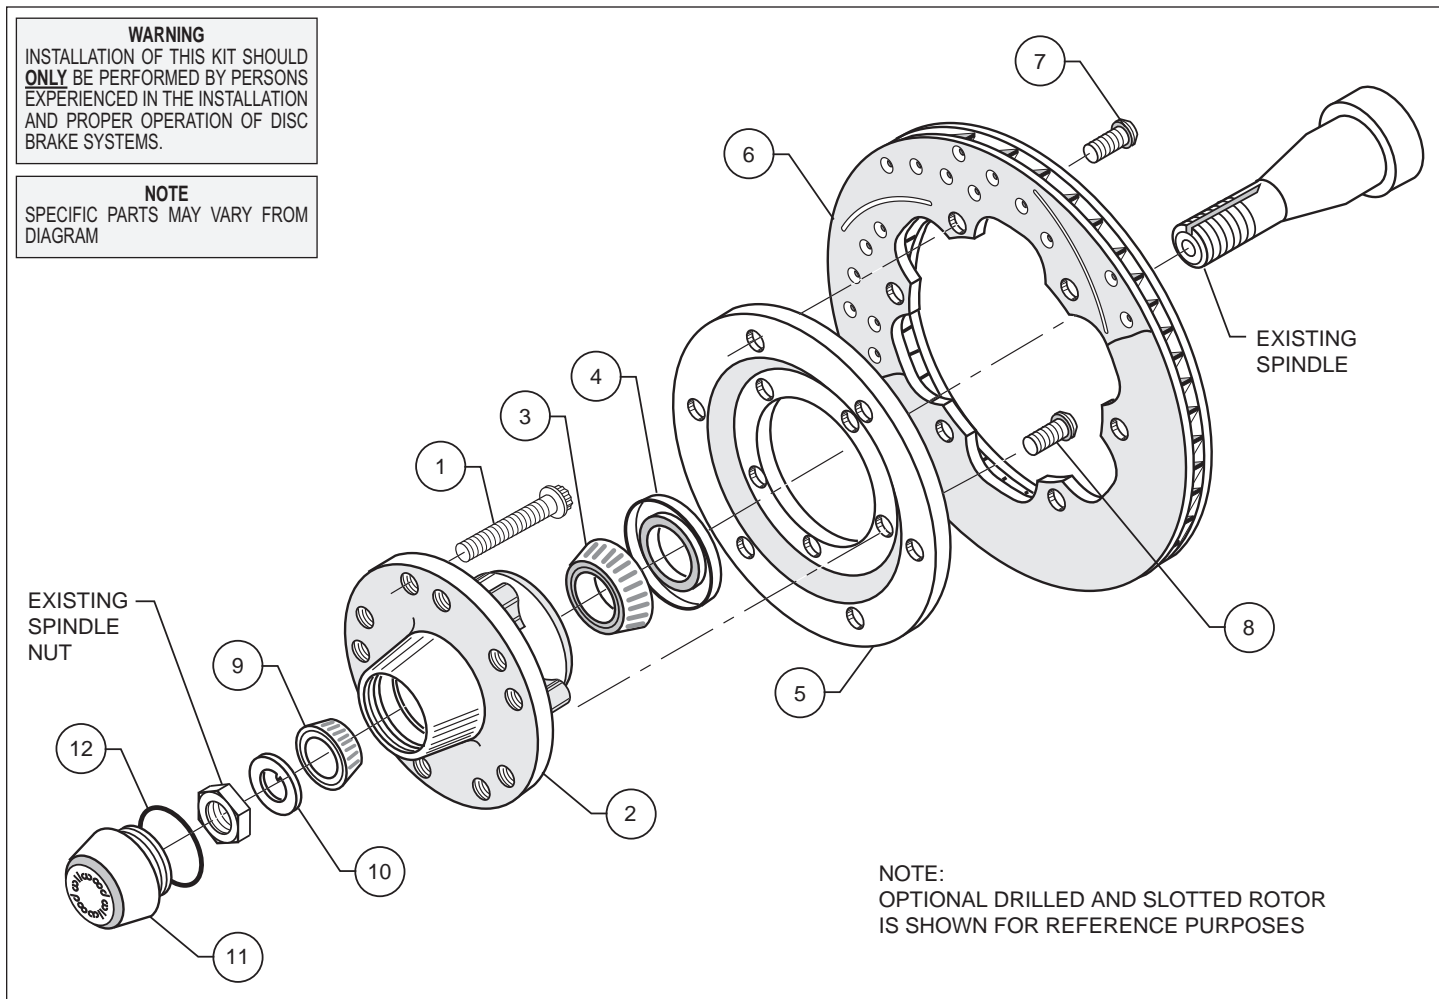

Figure 1. Typical Installation Configuration
- Install wheel studs (1) into the hub (2). Torque to 77 ft-lb. **NOTE:** There are two five lug patterns in the hub (5 x 4.50 and 5 x 4.75). Make sure of the correct hole pattern for the correct wheel application before installing studs into hub.
- Pack the large inner bearing cone (3) with high temperature disc brake bearing grease (available from your local auto parts store) and install into the backside of the hub (2).
- Install the grease seal (4) by pressing into the backside of the hub (2).
- Orient the rotor (6) and the rotor adapter (5) as shown in Figure 1. Attach the rotor to the adapter using bolts (7). Using an alternating sequence, apply red *Loctite*® 271 to the threads, and torque to 25 ft-lb.
- Mount the adapter/rotor assembly (5/6) to the hub (2) using bolts (8) (finger tight), as shown in Figure 1. Using an alternating sequence, remove bolts one at a time, apply red *Loctite*® 271 to the threads, and torque to 45 ft-lb.
- Pack the small outer bearing cone (9) with high temperature disc brake bearing grease and install into front of hub (2). Slide the hub/rotor assembly (2 and 6) with outer bearing cone (9) onto the spindle. Secure using spindle washer (10), stock adjusting nut and nut locking device. Adjust bearings per Original Equipment Manufacturer (OEM) specifications.
- Install the dust cap (11) onto the hub (2). Friction created by the o-ring (12) on the dust cap (11) keeps it from unscrewing. The O.D. of the spindle washer may be larger than the I.D. of the dust cap (11) not allowing it to seat against the hub face. Some grinding on the washer O.D. may be necessary to clear the I.D. of the dust cap (11).